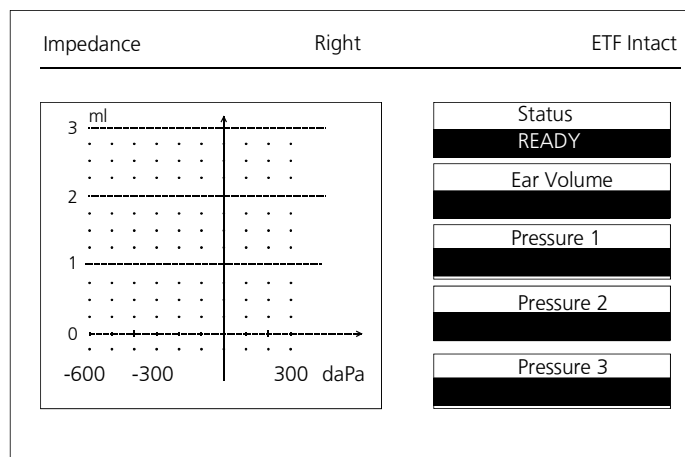

Figure 29 The ETF screen
Highlight ETF Intact from the main menu and press the ENTER button ⑬ or press the **ETF**-key ⑯ to advance to the Eustachian Function Test screen (see figure 29). It is not necessary to run a tympanogram before running this test.